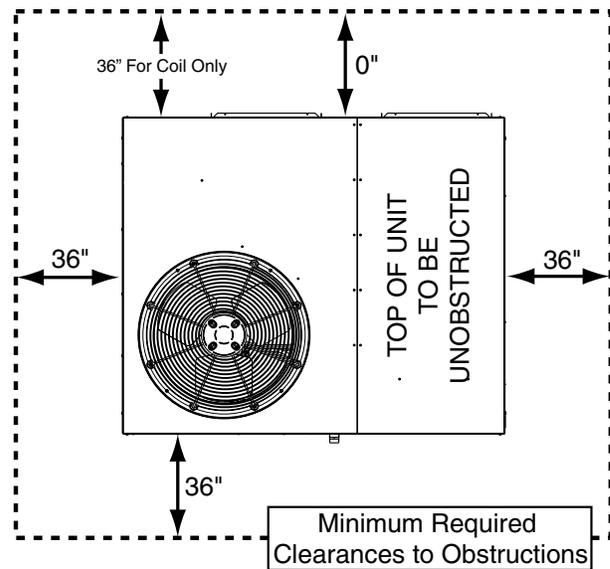

Figure 2. Clearance Requirements
- Sufficient clearance for unobstructed airflow through the outdoor coil must be maintained in order to achieve rated performance. See Figure 2 for minimum clearances to obstructions.
Q6SD units are certified as combination heating and cooling equipment for outdoor installation only. Figure 2 \(page 7\) displays the minimum clearances to obstructions for both downflow and horizontal discharge.
- Clearances must be in accordance with those shown in Figure 2. Also consider clearances for access to the internal filter.